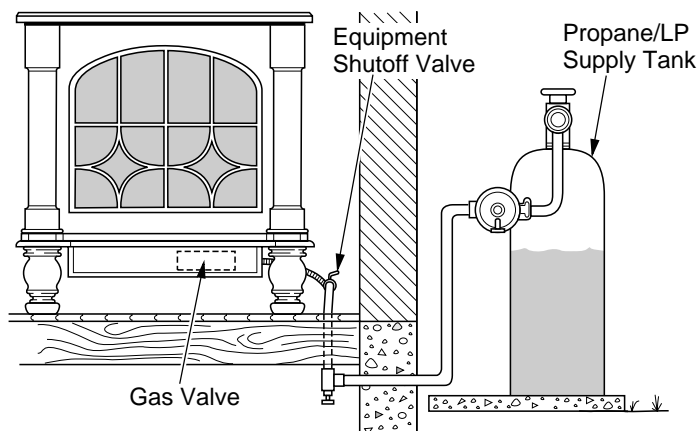
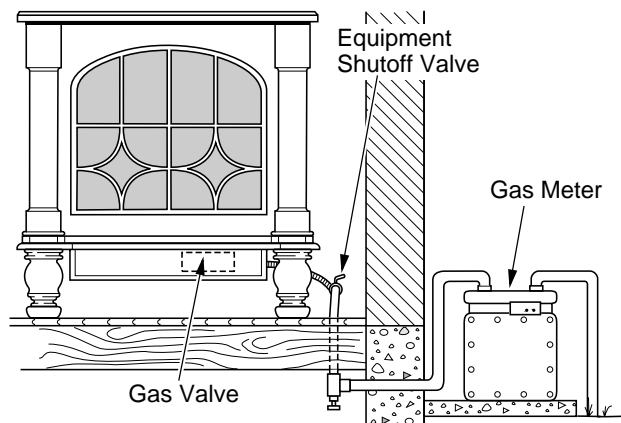

Figure 42 - Checking Gas Joints for Propane/LP Gas Burner System
Figure 43 - Checking Gas Joints for Natural Gas Burner System
3. Check all joints from propane/LP supply tank or gas meter to equipment shutoff valve (see Figure 42 for propane/LP or Figure 43 for natural). Apply a noncorrosive leak test solution to all gas joints. Bubbles forming show a leak. Correct all leaks at once.
4. Check all joints from equipment shutoff valve to thermostat gas valve (see Figure 42 for propane/LP or Figure 43 for natural). Apply a noncorrosive leak test solution to all gas joints. Bubbles forming show a leak. Correct all leaks at once.